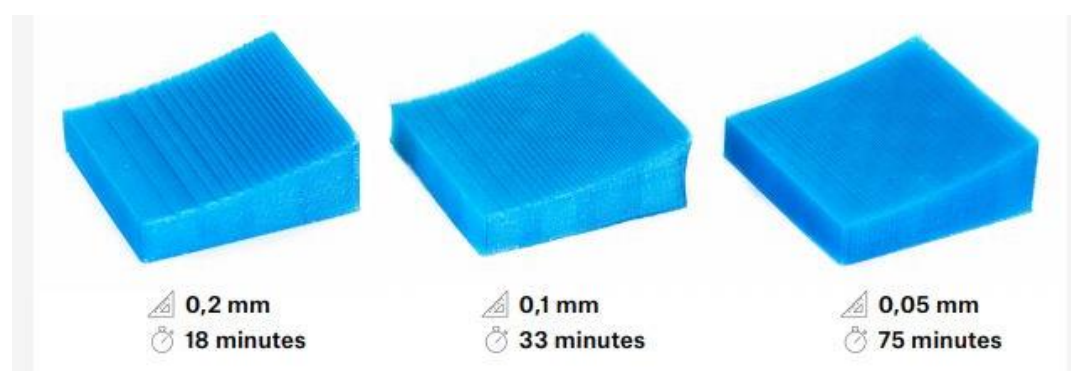

Fig 4.2: Same object made with different layer thickness.
3. **Layer Height/Resolution:** FDM 3D prints are made of many layers built cumulatively that consist of concentric walls filled in with skin or infill. The height of the layer is adjustable, with larger layer heights resulting in faster printing but loss of detail in the form of more visible layers and stepping. This is where adaptive layers come into play, as it uses tall layers on sections of a print with little detail and small layers where larger layers would result in ugly stepping. While not necessary all the time, this setting is great for large aesthetic prints. The thickness of each layer in the 3D printing process, affecting the print's detail and surface finish. Changing layer height can change the overall finish of the product (as shown in Fig. 4.2),